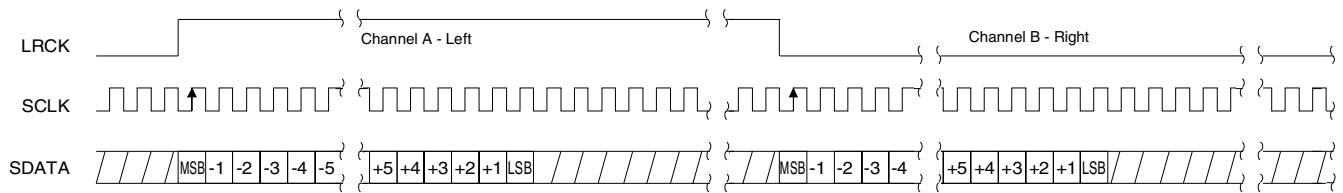

**Figure 5. Master Mode Timing - Serial Audio Port 2**
26. See figures 5 and 6 on page 24.